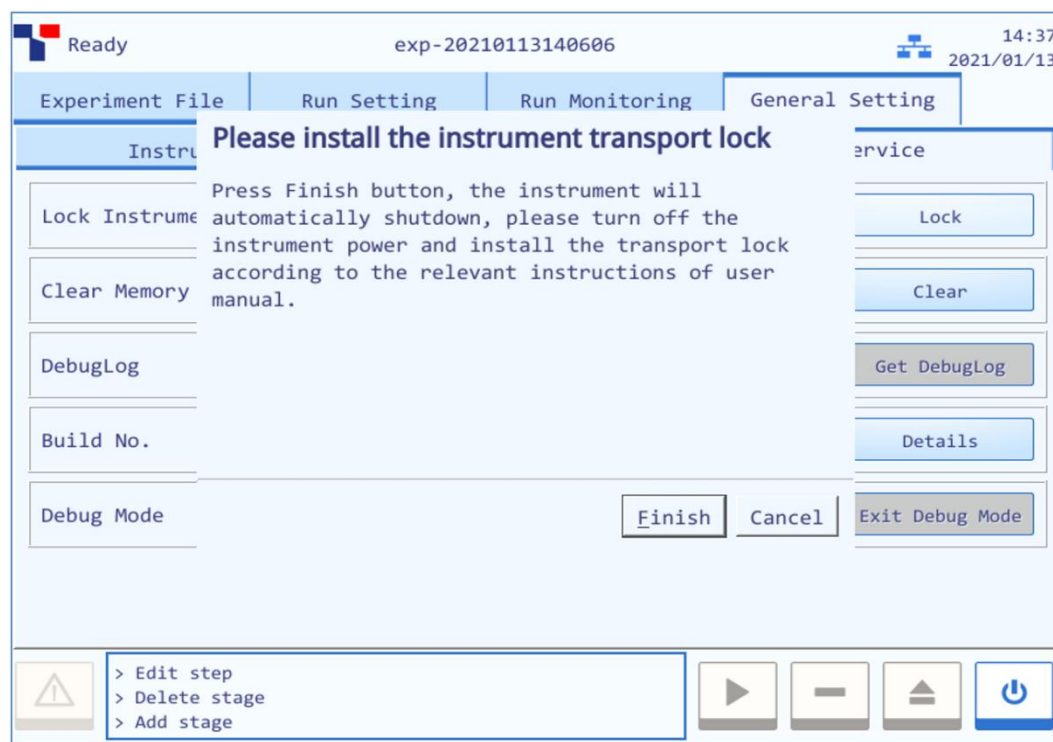

Figure F-6. Transport Locking Operation (4)
**4th Step:** press < **Lock** >, the mechanical parts of the Gentier instrument will move and reset. After this, the instrument will automatically shutdown and prompt user to install the transport lock, as shown in figure F-6.